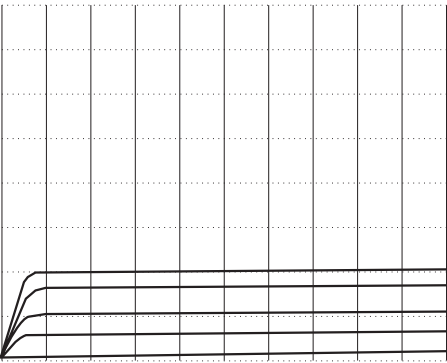

Figure 1
As shown in Figure 1, the upper edge of the grid represents the maximum value of the test current ( $I_C$ ,  $I_D$ ) according to the selected range ( $I_{max} = 200mA / 20mA / 2mA$ ).
5. Press the DUT switch **(14)**. Five curves (see Figure 1 or 2) now will be visible on the screen.